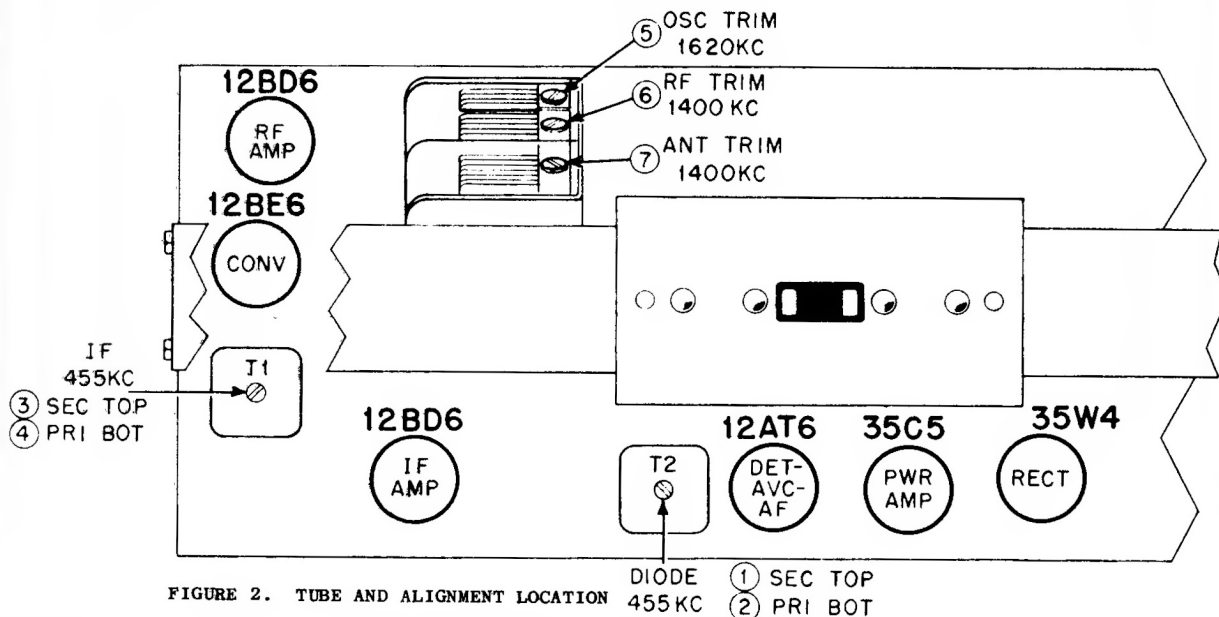

FIGURE 2. TUBE AND ALIGNMENT LOCATION
7. See Figure 2 for adjustment locations and the following chart for procedure.